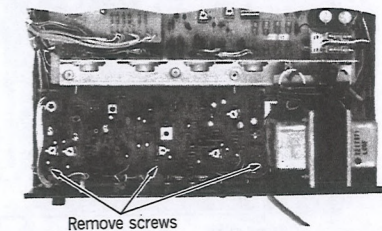

Fig. 10
2. Remove screws shown in Fig. 10.